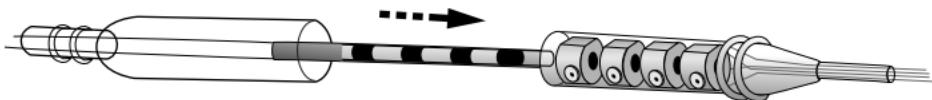

Figure 11. Insert the lead fully into the extension setscrew connector.
3. Hold the extension securely in your fingers. Insert the lead fully into the extension setscrew connector (Figure 11).